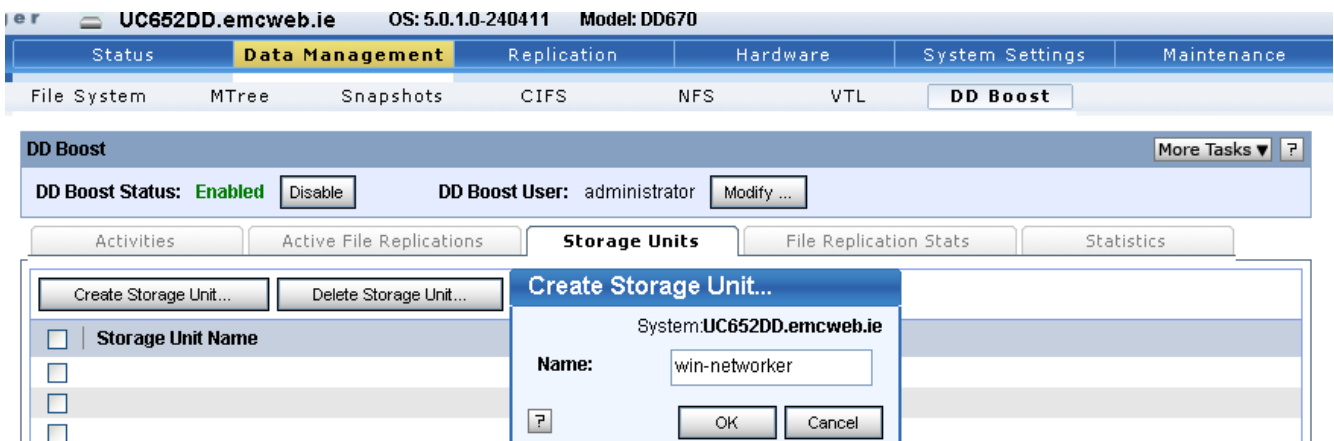

Figure 9. DD Boost storage unit creation
5. Create the storage unit as shown in Figure 9.